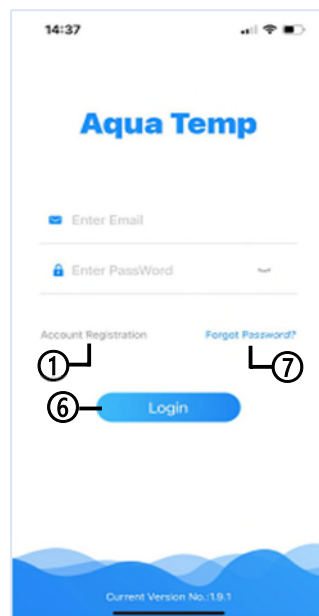

Fig. 7
1. To register, select 'Account Registration' (1) and complete the required fields with your personal information.
2. Select 'Send Verification Code' (2) and a verification code will be emailed to you. If you do not immediately receive this, check you 'Junk' or 'Spam' folder. Once you have this code, go back into the app and enter the code into the field.
3. Read the privacy policy (3) and select the checkbox (4) next to it to agree to the terms.
4. Select 'Confirmed' (5) to finish the account registration.
5. From the login page [Fig.7] enter your registered email and password and select Login (6).
*Tip: If you forget your password, you can select 'Forgot Password' (7) and follow the prompts.*